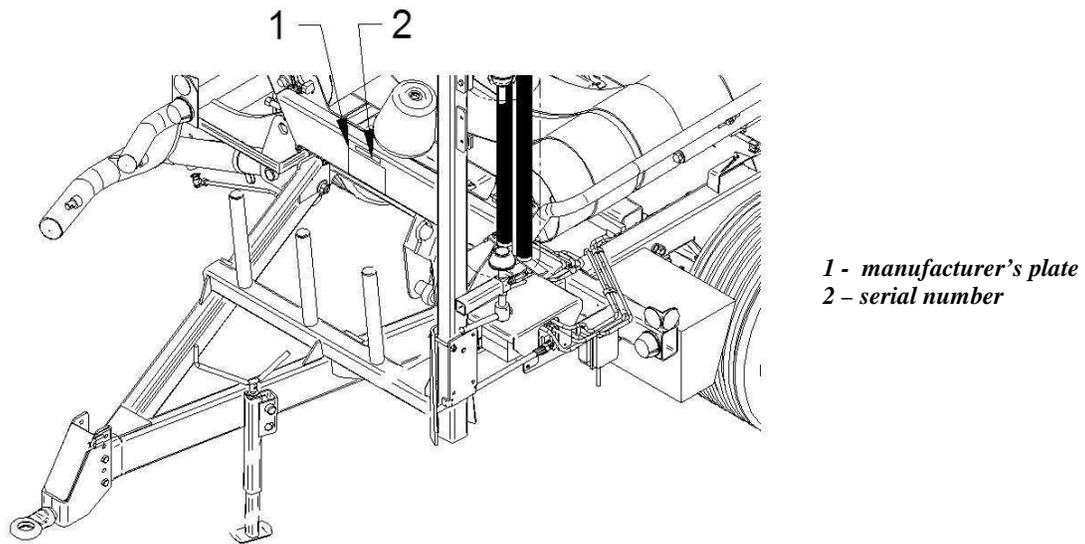

Fig. 24. Location of markings
Manufacturer's plate is located on the main frame beam on left side of the machine. The wrapping machine's serial number is located under the manufacturer's plate (see **Fig. 24**).
The wrapping machine is equipped with a jack stand (8) which stand on the ground during the machine storage – vertical position (see **Fig. 24**). During the machine operation and transportation, the support should be rotated by 90° and protected with a pivot in this position, check its position from tractor's seat.